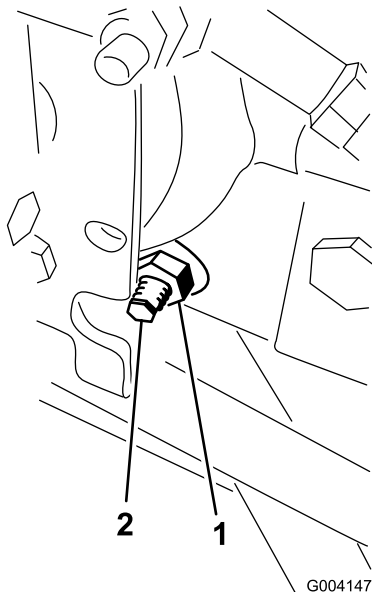

Figure 47
3. On the right side of the hydrostat, loosen the locknut on the traction-adjustment cam (Figure 47).